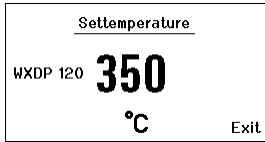

Fig. 7
1. Press and hold down the required selection key **6** or **16** for 3 sec. The display changes over to the set-point temperature (see Fig. 7).